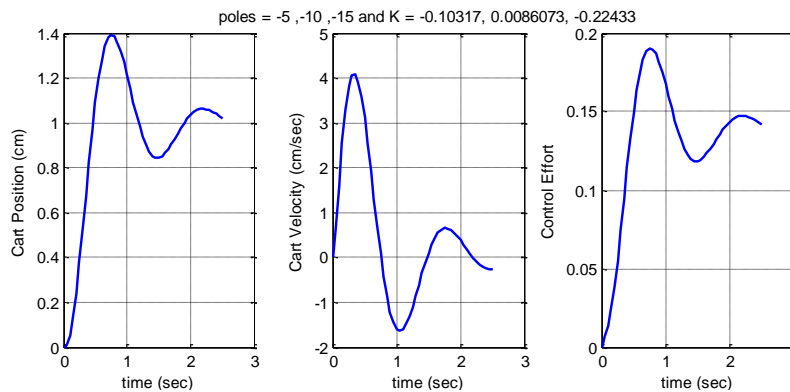

Figure 3: Integral control with a bad system model
- 9) At this point there is no real reason for us to use integral control, since we know everything exactly and there is zero steady-state error. Let's assume your lab partner is has derived a state model that is way off from the actual system. In your code, just before your run the simulation (just before the `sim` command), type `A = A*0.75`, which basically makes the A state matrix way off from the designed model. If you make this change just before the simulation, your gains will be chosen assuming your model is correct, and we will be running the simulation using a different system. You should get results like those shown in Figure 3, which look pretty hopeless, but we can improve them.